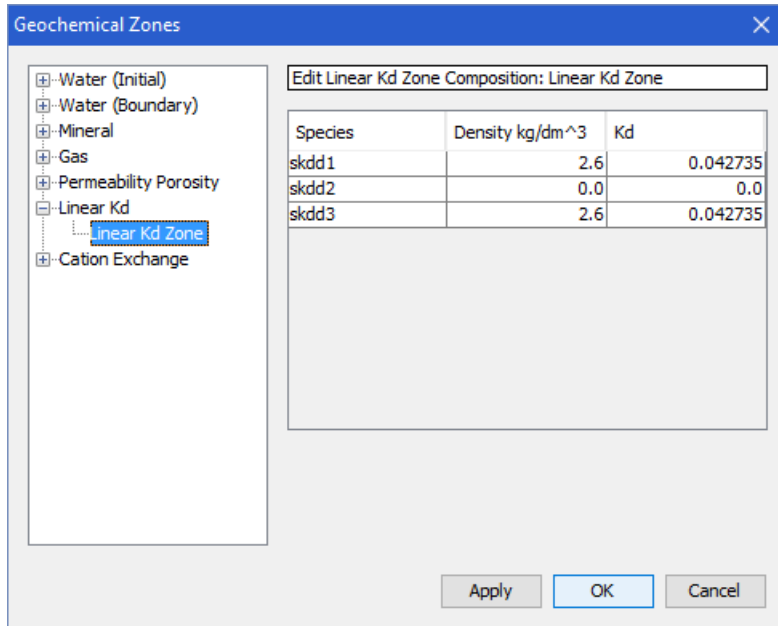

Figure 4: Linear Kd zone
7. For **skdd1** and **skdd3**, in the **Density** box, type **2.6** and in the **Kd** box, type **4.2735E-2** (Figure 4).